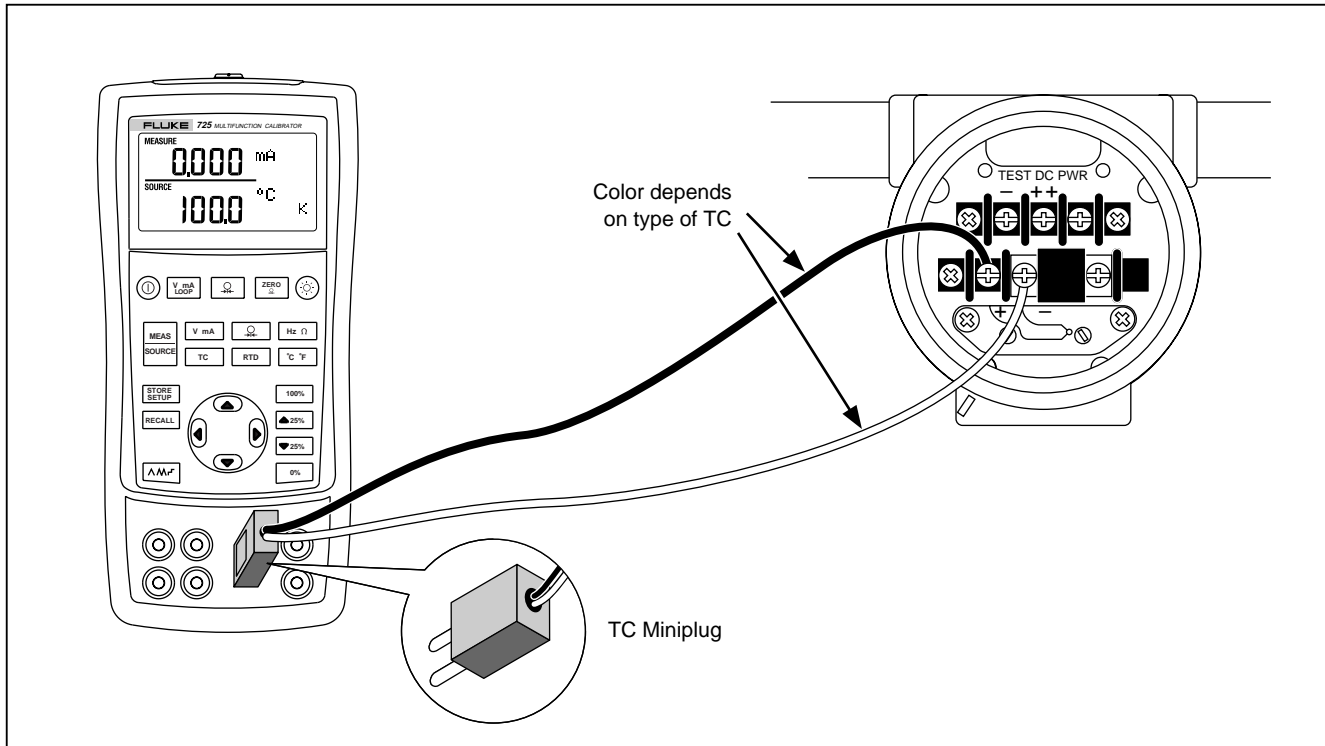

Figure 15. Connections for Simulating a Thermocouple
Connect the calibrator TC input/output to the instrument under test with thermocouple wire and the appropriate thermocouple mini-connector (polarized thermocouple plug with flat, in-line blades spaced 7.9 mm [0.312 in] center to center). *One pin is wider than the other. Do not try to force a miniplug in the wrong polarization.* Figure 15 shows this connection. Proceed as follows to simulate a thermocouple:
1. Attach the thermocouple leads to the appropriate TC miniplug, then to the TC input/output as shown in Figure 15.